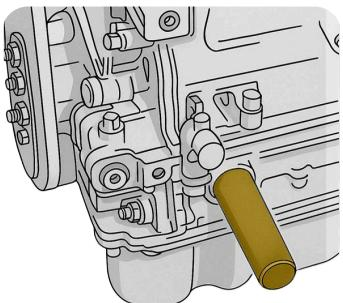

fig.1
3. Remove the crankshaft access plug and insert the crankshaft locking pin (see fig. 1).